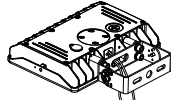
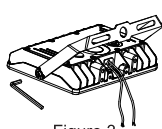

Figure 2
Figure 3
Step 2: Fix the bracket(Figure 2).
2. FLOOD MOUNTING (FM)
Step 1: Take out the bracket,tighten the screws,and fix the bracket on the fixture(Figure 3).